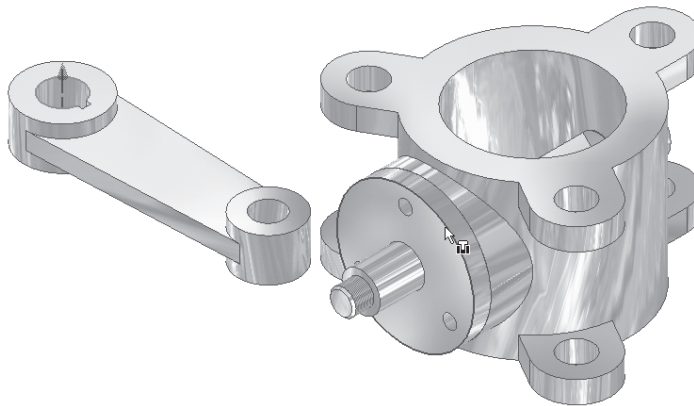

Figure 8-41 Selecting the faces to apply the **Insert** constraint
6. Choose the **Insert** button and then select the top circular edge of the hole with the keyway in the Arm as the first face, see Figure 8-41.
7. Select the outer circular edge on the front planar face of the Retainer as the second face to apply the **Insert** constraint, see Figure 8-41. Choose the **Apply** button.